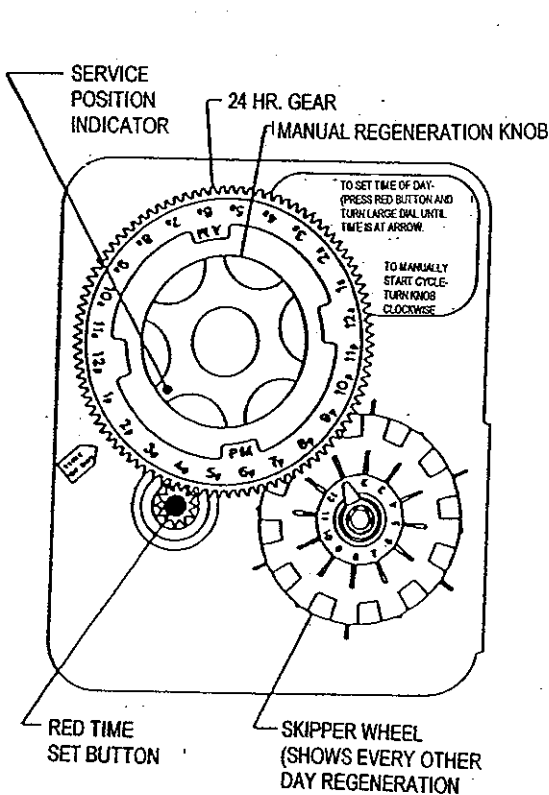

Figure 1
2. The control valve **must be in the SERVICE position!** If needed, rotate manual regeneration knob on timer clockwise until white dot aligns with raised time of day arrow. (See Figure 1.)
1. The control valve **must be in the SERVICE position!** If needed, rotate manual regeneration knob on timer clockwise until the white dot aligns with raised time of day arrow. (See Figure 1.)
1. Locate skipper wheel just to the right of the manual regeneration knob. (See Figure 1.)
Note : The red pointer represents tonight in the regeneration program. (See Figure 1.)
Note : Figure 1 shows the program wheel set for every two (2) days.
1. Depress red button on lower left side of timer door. (See Figure 1.)